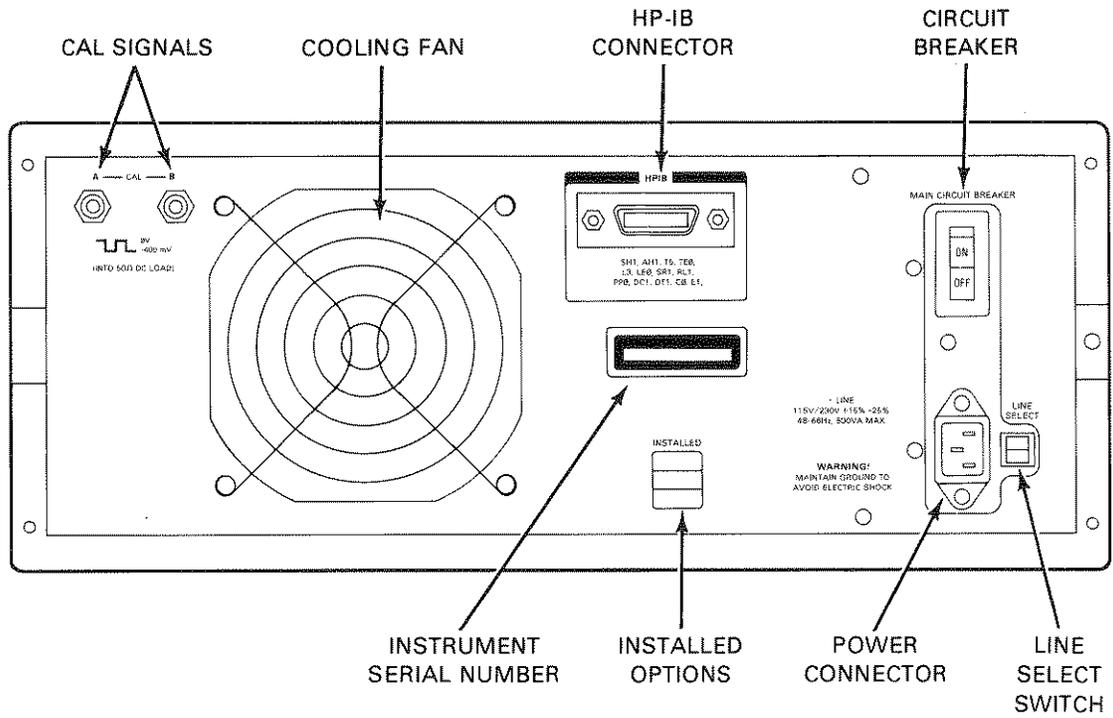

Figure 4-1. HP 54100A/D Rear Panel
Before connecting this instrument to the AC power source, insure that the line select switch on the rear panel of the instrument is set to the appropriate position (see figure 4-1).
2. The mains breaker is located on the upper right hand corner of the rearpanel (see figure 4-1).